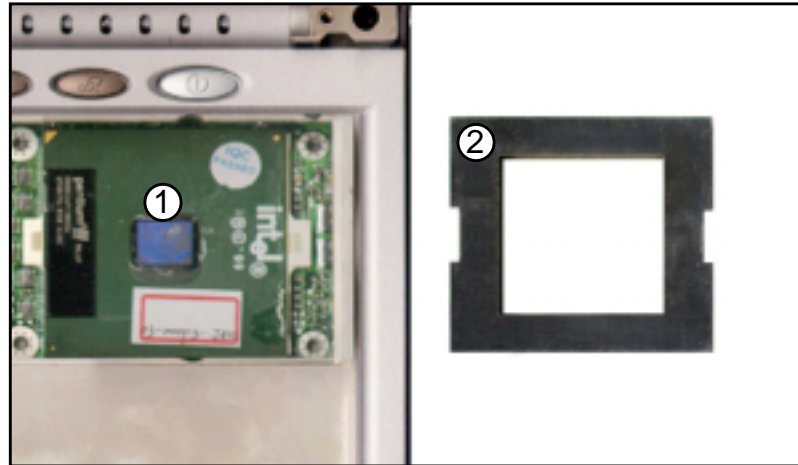

figure 3-10
1. Place the CPU tool over the CPU (figure 3-10).
2. Place the CPU tool over the CPU (figure 3-10)